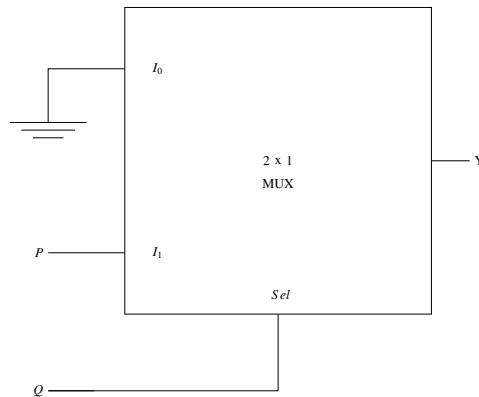

Fig. 3.23
41. In the circuit shown below in Fig. 3.23, P and Q are the inputs. The logical function realized by the circuit is _____. (GATE EC 2023)